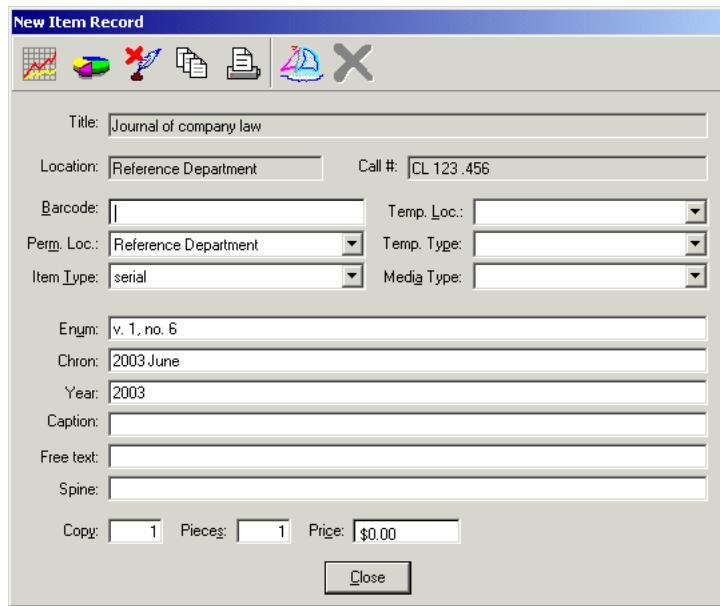
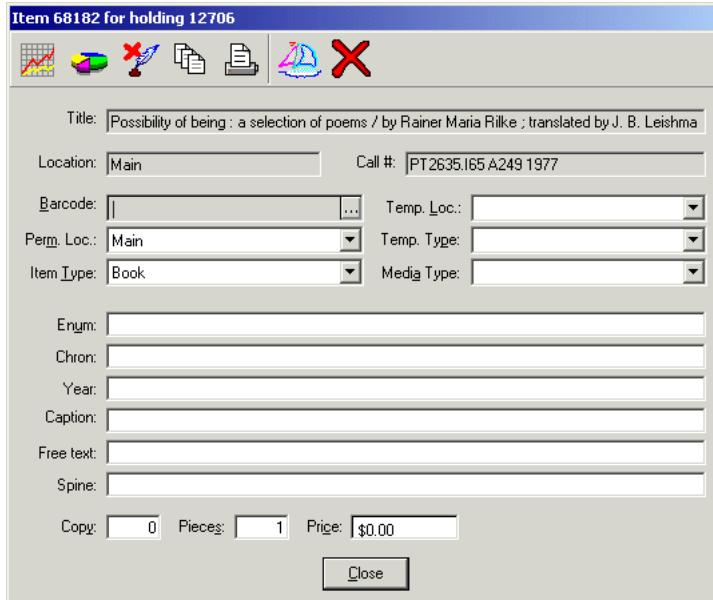

Figure 10-13. New Item Record dialog box
Figure 10-14. Item Record dialog box (item already created)
1. From the **New Item Record** dialog box (Figure 10-13) create an item record. Or from the **Item Record** dialog box (Figure 10-14) edit an item record.
In Figure 10-14 the title bar for an already created item record lists the Item ID and the associated Holding ID.